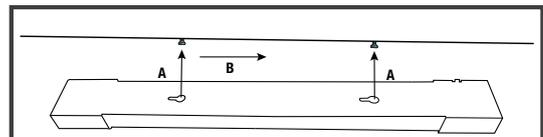

Figure 2
Step 1: Locate Mounting Holes: Measure distance between keyhole slots at the narrow end of the fixture and with a pencil mark the spot where the screws will be located. The screw hole location must be exact for the fixture to mount properly. See Figure 2.
Step 3: Attach Fixture: Attach fixture to screws by aligning keyhole slots underneath fixture and push onto screws (Figure 2 A). Slide fixture to narrow part of keyhole slots (Figure 2 B). Keep adjusting screw depth slightly until fixture is snug onto mounting surface.